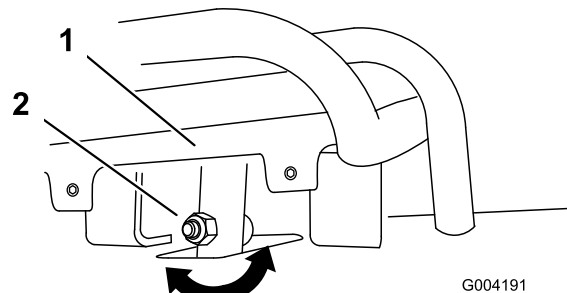
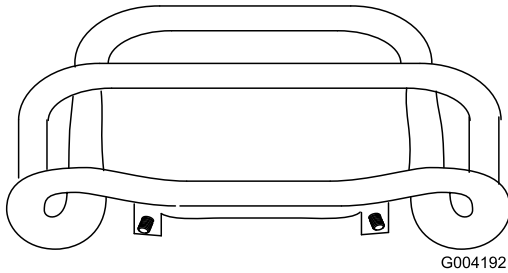

Figure 50
Figure 51
4. If the front of the traction control does not rest square and flush with the reference bar, loosen the flange nut and bolt in the stem of the traction control (Figure 50).
5. Adjust the traction control so that it rests flush against the reference bar when it is pulled straight back (Figure 50 and Figure 51).